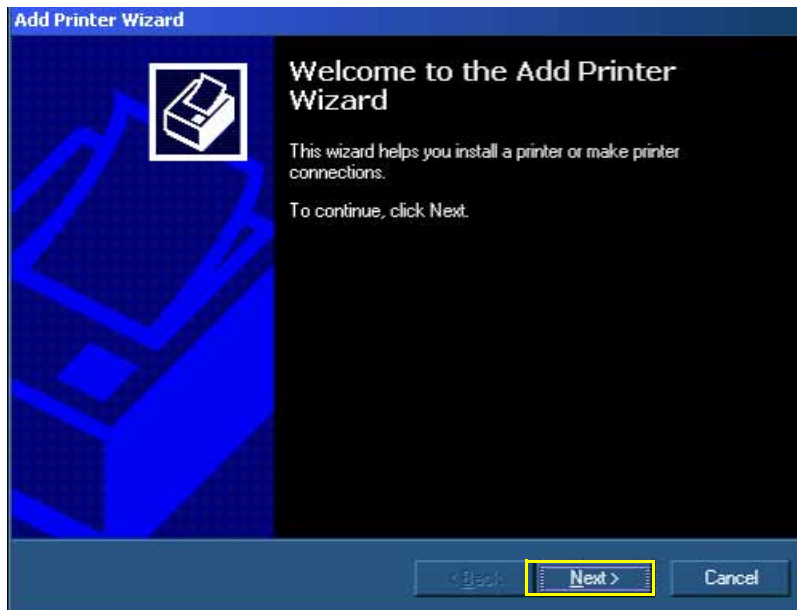

Figure 8-182 Add Printer Wizard
9.) When the *Add Printer Wizard* opens, click **Next** - see Figure 8-182.